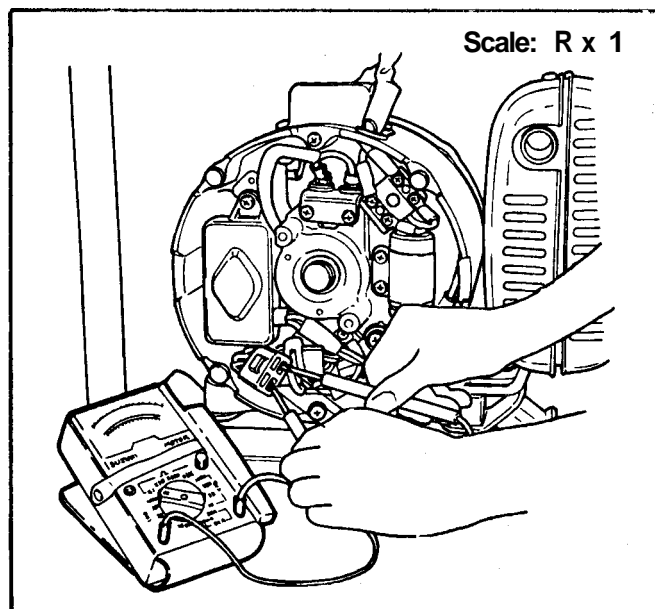

Figure 138
4. Measure the exciter coil resistance at the the end of the wire connector that leads to the generator wiring harness. See Figure 138.